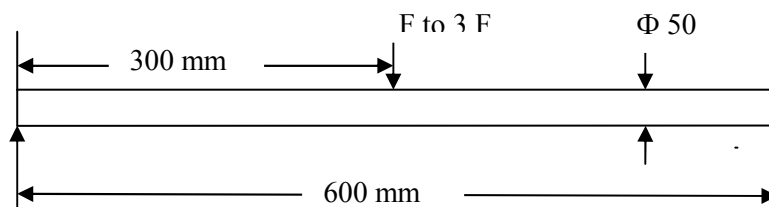

Fig. 1
- (b)** Determine the maximum load using the Soderberg equation for the simply supported 50 mm diameter beam, cyclically centrally loaded as shown in fig. 1. The ultimate strength is 690 N/mm², the yield strength is 400 N/mm² and the factor of safety is 1.5. Use a size correction factor as 0.85 and a surface finish factor of 0.9 **07**